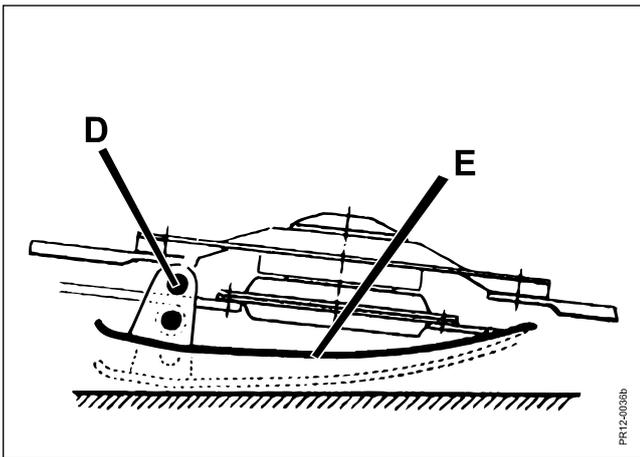

Fig. 3-9
- Fig. 3-9** Rough adjustment of the stubble height is made in 2 steps with the pin **D** at guide shoe **E** in the right and left-hand side (the bottom hole gives a low stubble). Fine adjustment is made by lengthening or shortening the top link.